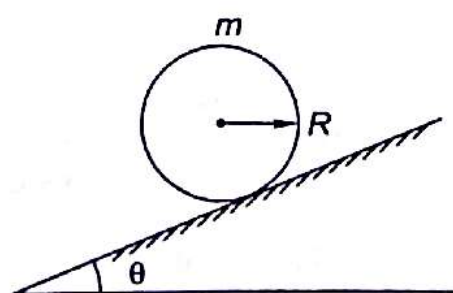

Fig. 17.14
- 17.1 A homogeneous cylinder of mass m and radius R is placed on inclined plane with angle of inclination θ . What should be the maximum angle θ , so that cylinder rolls without slipping? The coefficient of friction between cylinder and inclined plane is 0.12 (Fig. 17.14)